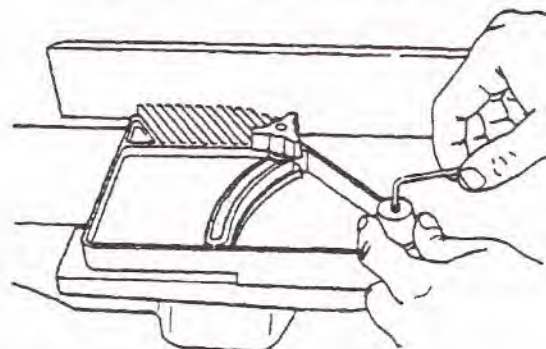

Fig. 20
- c. Hold the knob (5) in place while you retighten the setscrew (4), see Fig. 20.